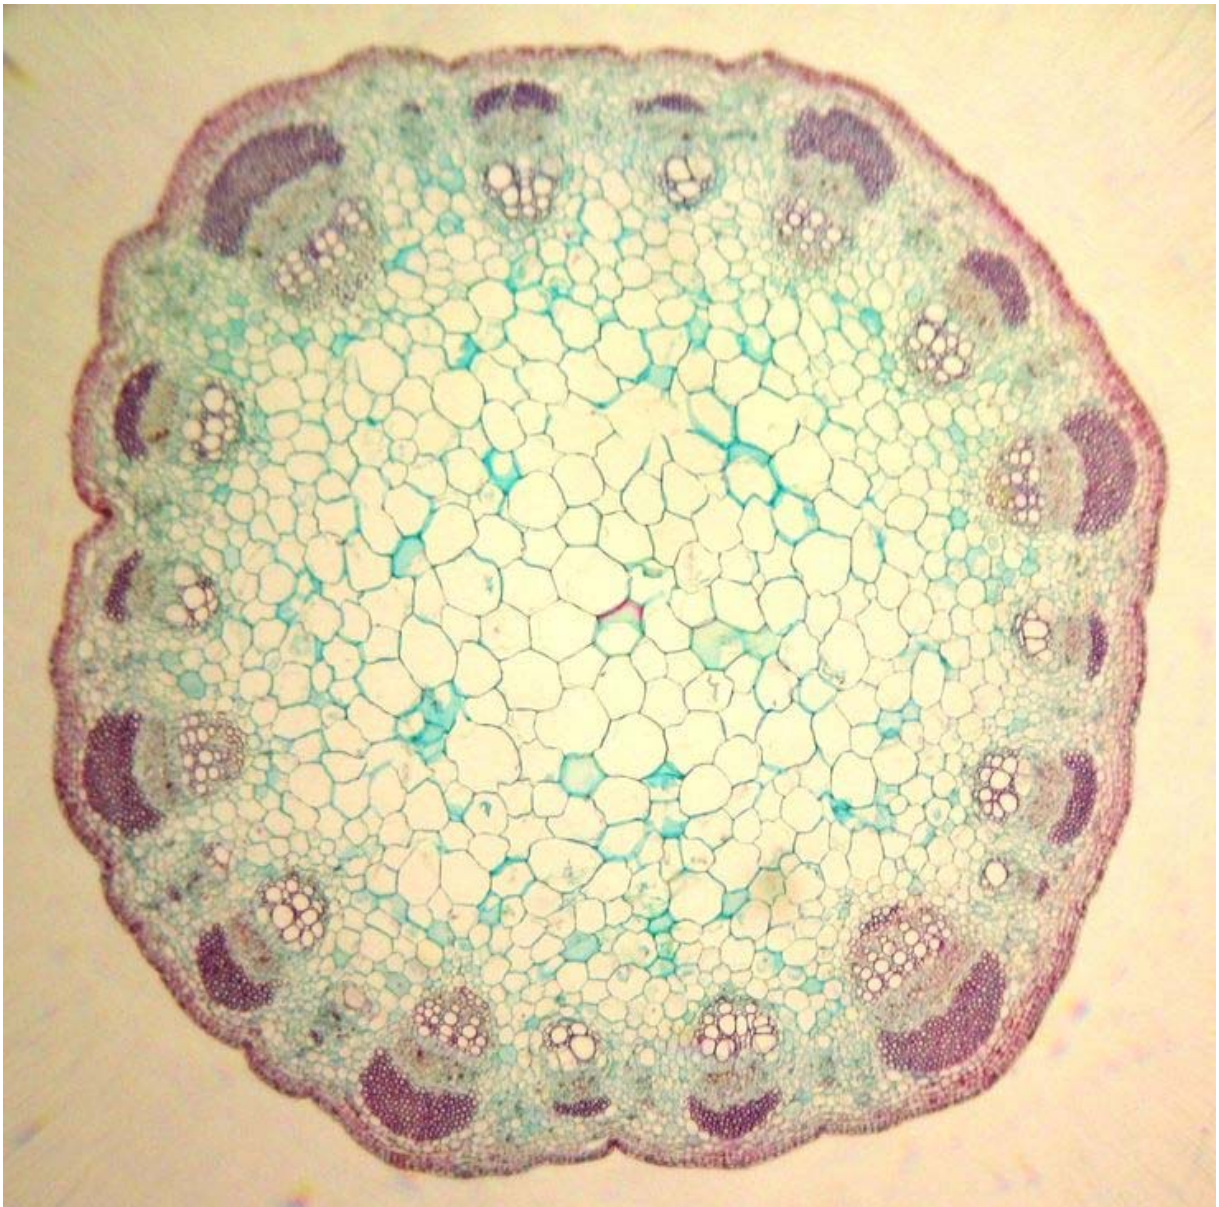

Fig. 3.5
(e) Fig. 3.5 is a photomicrograph showing a stem from another plant.
Prepare the space below so that it is suitable for you to compare **three** observable differences between **S1** and **Fig. 3.5**.
S1	Fig. 3.5
4. Vascular bundles have more layers of tissues compared to those of Fig. 3.5;	Vascular bundles have less layers of tissues compared to vascular bundles of S1